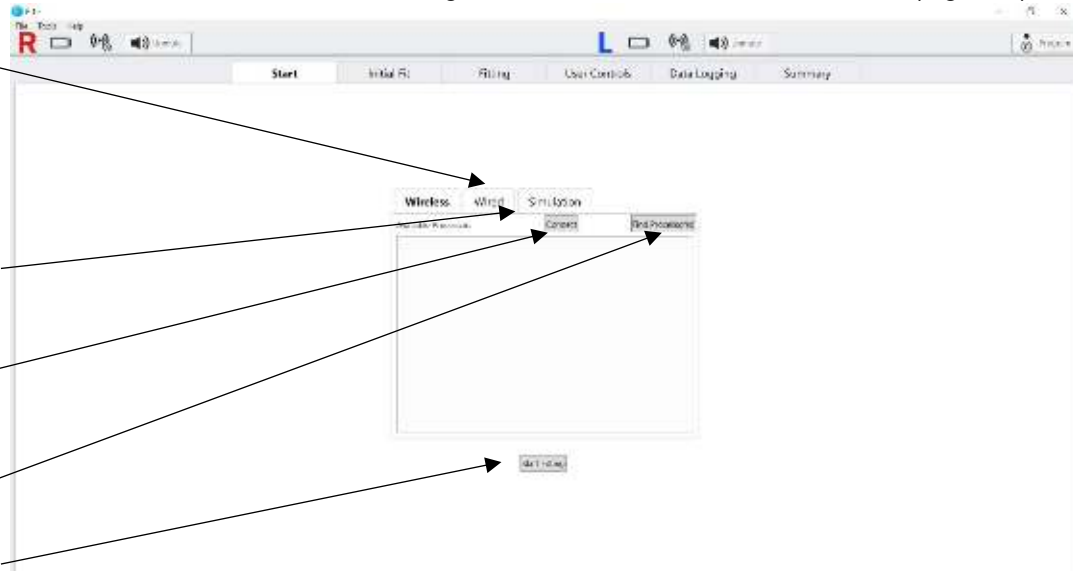

Figure 9. ELF Start screen
- **Top Tool Bar (Figure 9)**
- **Start:** Detect Processors, start a fitting session and access Simulation mode (Figure 9).